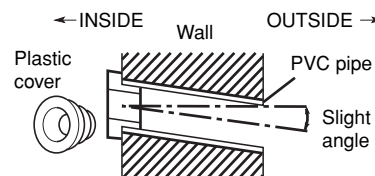

Fig. 3-115
- (6) Place the plastic cover over the end of the pipe (for indoor side only) and insert in the wall. (Fig. 3-115)